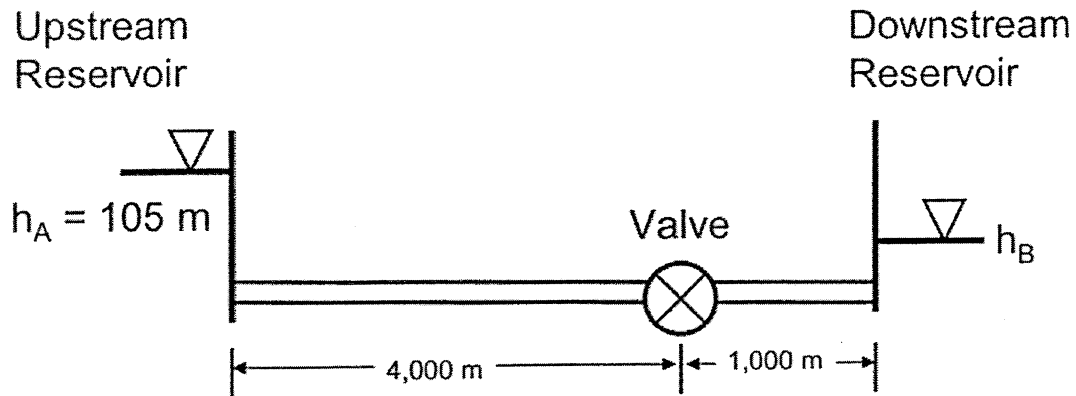

Figure 2. Schematic of water transmission system.
2. A transmission pipeline that conveys water from an upstream reservoir to a downstream reservoir is indicated below in Figure 2. The transmission main has a valve along its length that controls the discharge in the system. The discharge through the valve is computed with the valve equation below. The pipeline has a length of 5,000 m, a Hazen-Williams 'C' factor of 120, and an inner diameter of 450 mm. The upstream reservoir has a water level of 105 m. The valve discharge constant is  $E_s = 0.45 \text{ m}^{5/2}/\text{s}$ .